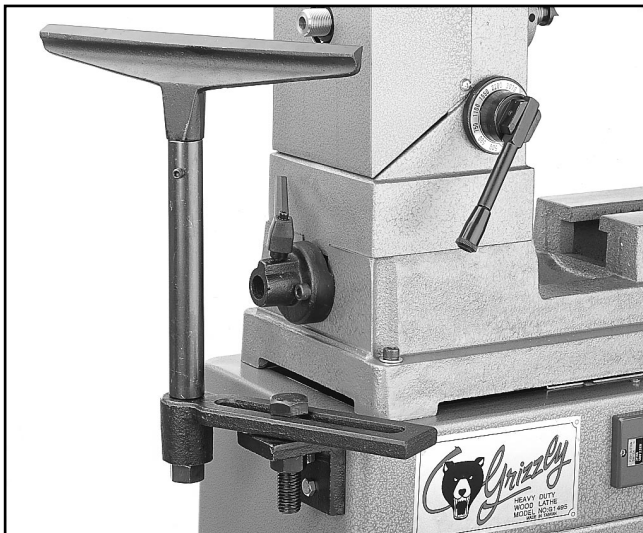

Figure 21. Outboard tool rest.
1. Fasten the L-shaped bracket to the cabinet stand with the two (2) $\frac{5}{16}$ " - 18 x 1" bolts provided and tighten with a 12mm wrench.
2. Attach the tool rest support to the bracket with the $\frac{3}{4}$ " - 10 x 2 $\frac{1}{2}$ " bolt and nut as shown in **Figure 21** This is hand-tightened only to allow movement.